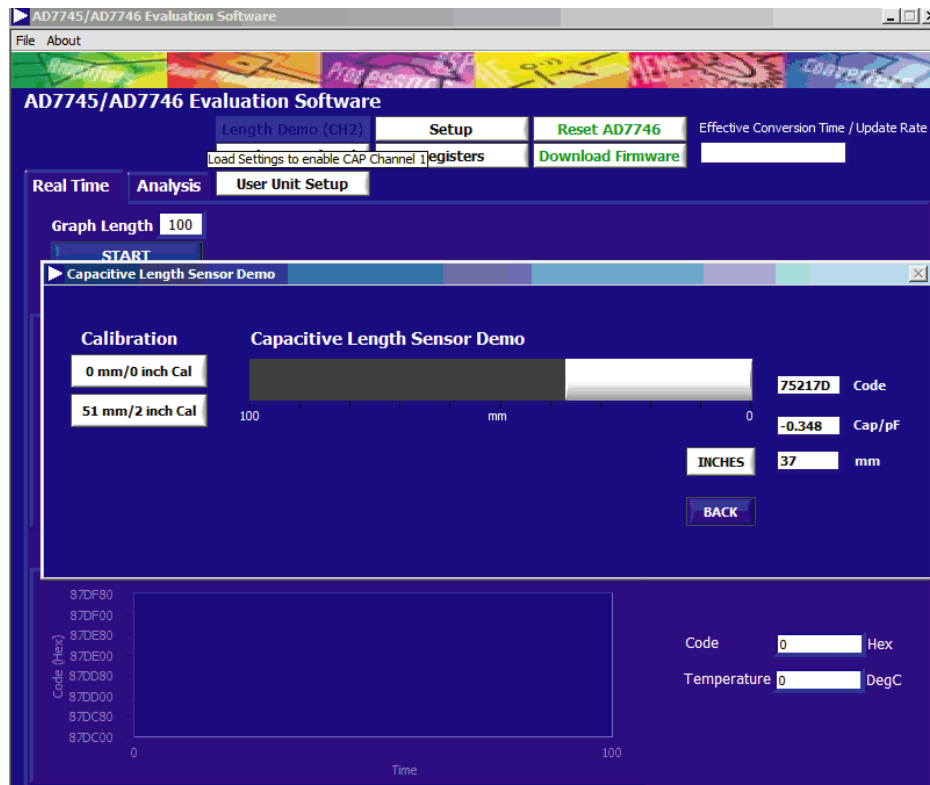

Figure 10. Capacitive Length Sensor Demo Window
2. Click the **Length Demo (CH2)** button. This action enables continuous conversions on Capacitive Channel 2 in single-ended mode, enables EXCA as the excitation output pin, sets the update rate, and initializes CAPDAC A. The **Capacitive Length Sensor Demo** window appears (see Figure 10).
3. Slide the ruler on the evaluation board. This action is mirrored on the screen. The code, capacitance, and length (in inches or mm) appear on the right side of the window (see Figure 10). These values change as you slide the ruler on the evaluation board.